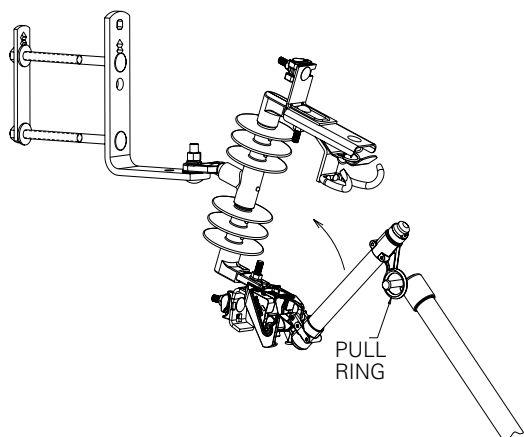

Figure 8. Closing the fuseholder into the UltraSIL Polymer-Insulated or Porcelain Type L cutout.
5. Rotate the fuseholder to an intermediate position as in Figure 8.